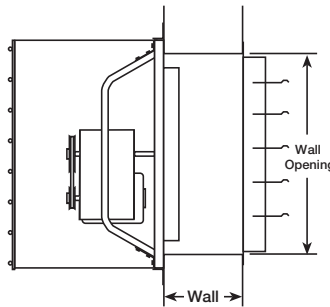

Figure 3 — Fan Direct to Wall Installation With Guard Direct to Wall
1. Fasten guard (4) side panels together with the 5/8" length supplied sheet metal screws.
4. Determine the method by which the fan is to be mounted as shown in Figures 3, 4, and 5.
- a. Figure 3 shows direct to wall installation for exhaust fans. First mount fan to wall. Then mount guard to wall.